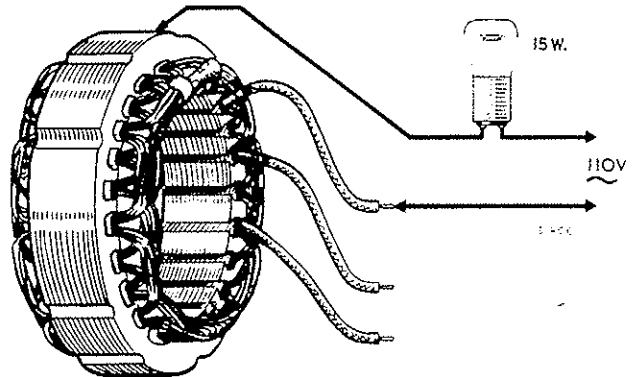

Fig. N.13. Stator winding insulation test
2. Test for defective insulation between stator coils and lamination pack with the mains test lamp (see Fig. N.13). Connect the test probes between any one of the three cable ends and the lamination pack. If the lamp lights, the stator coils are earthing and a replacement stator must be fitted.